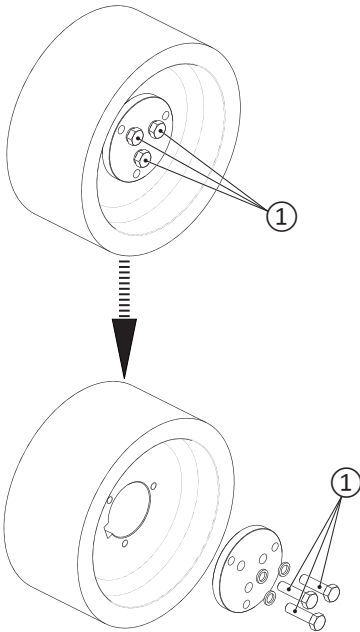
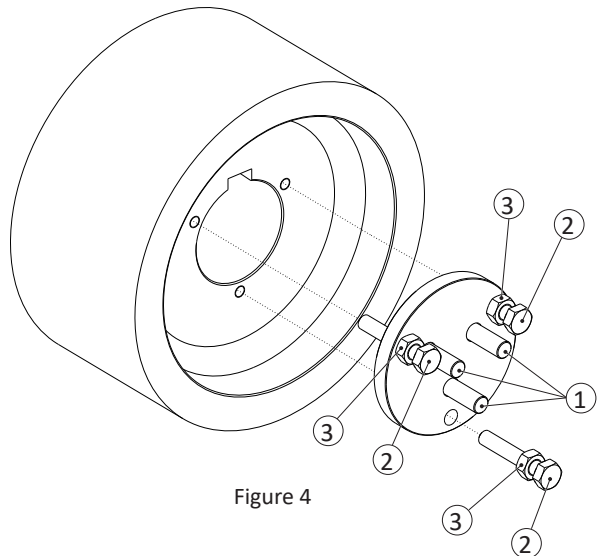

Figure 3
Figure 4
- Unscrew the retaining screws ① “Figure 3” and place them as shown in “Figure 4”.
- Tighten the nuts ③ on the screws ② and place them as shown in “Figure 4”.
- Tighten the ② screws by 15/20 mm in the threaded holes on the pulley.
- Remove the pulley by tightening in circular sequence the nuts ③, while holding the pulley screws ② firm.
- ① SCREWS M12x45
- ② SCREWS M10x60 (not included in the standard supply)
- ③ NUTS M10 (not included in the standard supply)